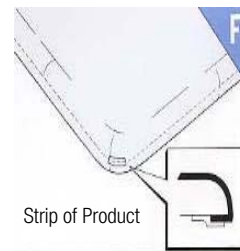

Figure 9. Securing the edges
5. To secure the edges, especially at corners where the Product is probably heavier, apply adhesion promoter, allow to dry, and then apply a small strip of Product to the cut edge. This provides additional stabilization and further minimize shrinkage. See Figure 9.